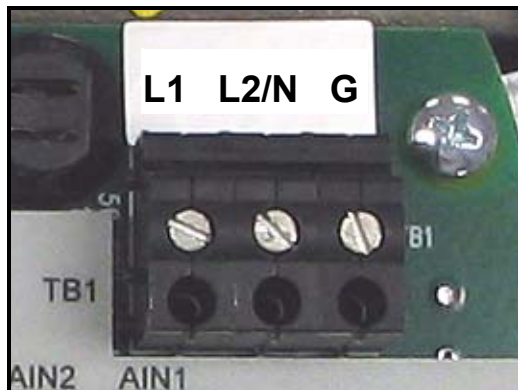
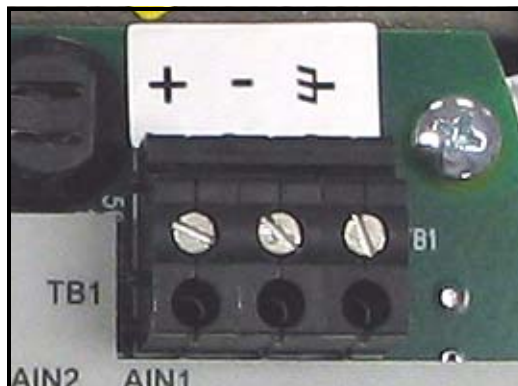

Figure 15: Wiring the AC Line Power
Figure 16: Wiring the DC Line Power
See Figure 15 on page 29 to locate terminal block TB1 and to connect the line power as outlined below:
2. Route the cable through one of three conduit inlet ports (see Figure 14 above) and connect the line power leads to terminal block TB1, using the pin number assignments shown in Figure 29 on page 40 and Figure 15 or Figure 16 on page 29.
3. Run the AC power connections to the Power Terminal Block shown in Figure 15 below. It is recommended to use 12-18 AWG (3.3 - 0.82 mm²) power wiring.
5. Route the cable through the chosen conduit hole and connect the line power leads to terminal block TB1, using the pin number assignments shown in Figure 30 on page 41 and Figure 15 or Figure 16 below.